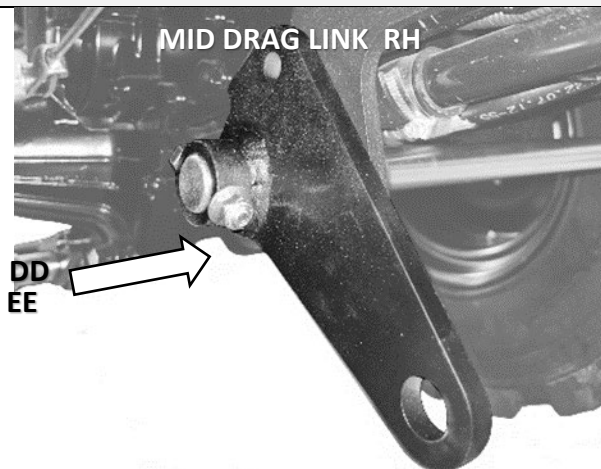

Figure 7A
6. Install the Mid Drag Link LH and the Mid Drag Link RH as indicated (Figures 7A & 8A). Align the corresponding holes and secure both ends using bolts DD and nuts EE. Torque to 70 in-lb.